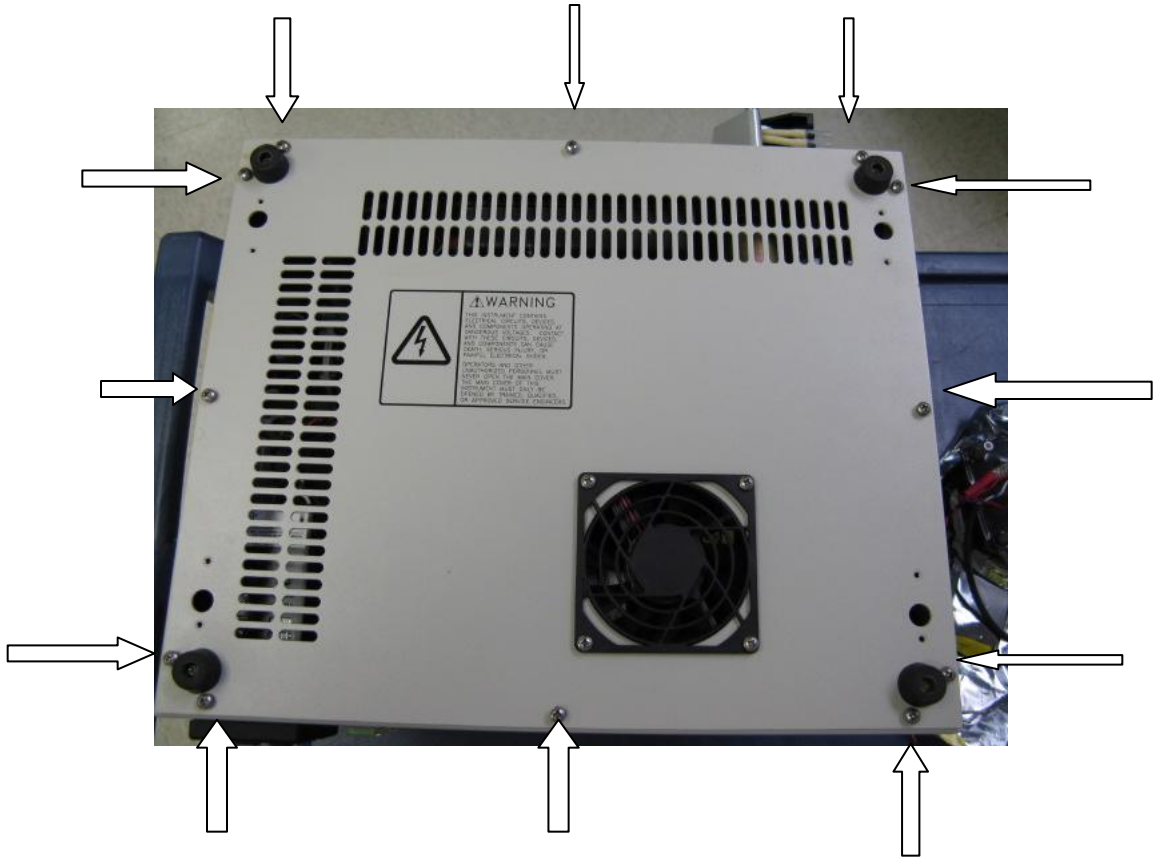

Figure 1-1
--There are 12 screws that need to be taken out. See figure 1-1.